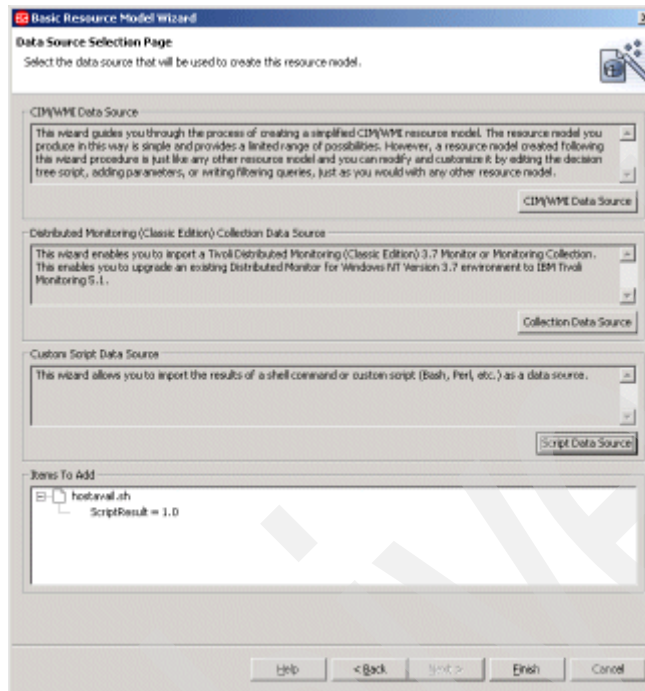

Figure 9-45 Basic Resource Model Wizard: Data Source Selection Page window
16. Select **Finish**. You are returned to the Basic Resource Model Wizard: Data Source Selection Page window, as shown in Figure 9-45 on page 466.